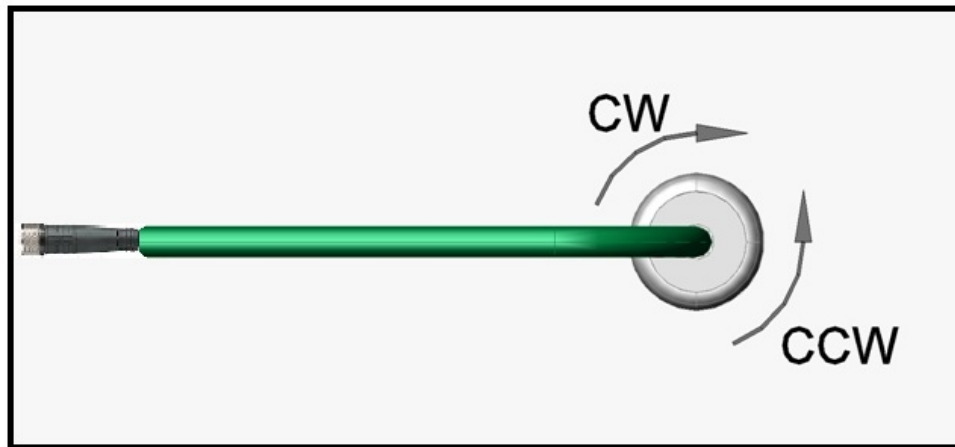

FIGURE 20 - MOTOR ROTATION DIRECTION CONVENTION
The *Module* uses a Clockwise (CW) and Counter Clock-Wise (CCW) motor rotation definition. The reference for this distinction is based upon viewing the MDR from the cable exit end of the roller as depicted below in *Figure 20*.